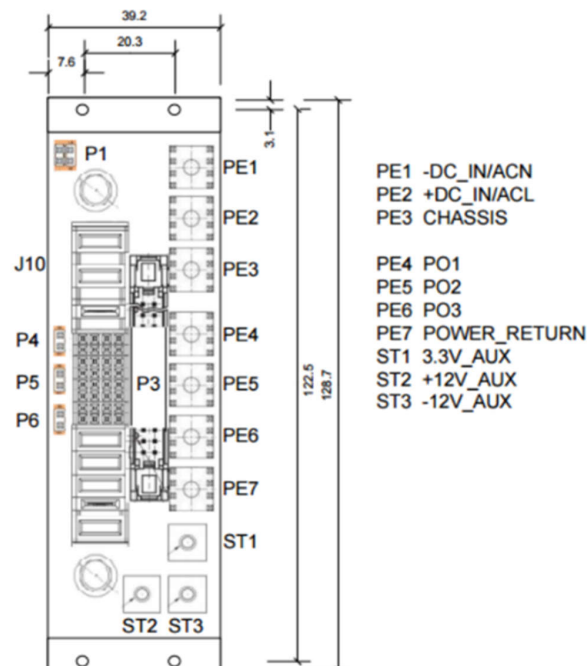

Figure 3-1. Pixus Technologies Schematic of backplane connector for testing
To test this reference design, TI purchased the Pixus Technologies PIBV62 interface board. This board plugs into the connector that is on the reference design. This reference design has alignment key 1 (input voltage) keyed to 0° which correlates to a nominal input voltage range between 18VDC to 36VDC. The output is intended for final power out and alignment key 2 (output voltage) is keyed to 0° which correlates to PO1 = 12VDC, PO2 = 3.3VDC, and PO3 = 5VDC. Figure 3-1 shows a schematic provided by Pixus. In that schematic, the following configurations were made: